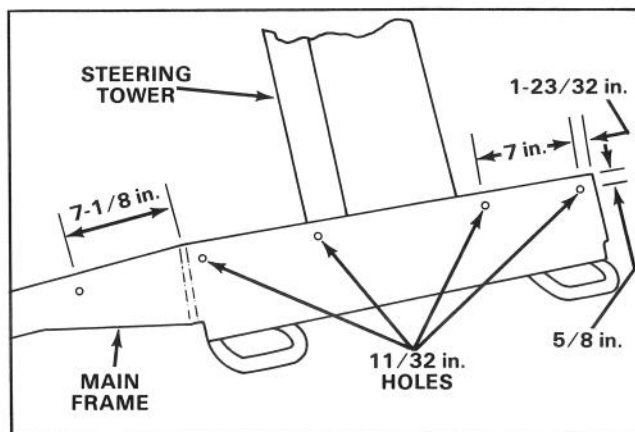

Figure 1
1. On the main frame forward of the steering column tower, measure and mark  $5/8$  in. down from the top edge (Fig. 1).
2. From the outer edge of the frame on each side, measure  $1-23/32$  in. inward and center punch where they intersect the  $5/8$  in. mark (Fig. 1).
3. Measure 7 in. toward the center from each center punch mark and center punch again at the intersection of the  $5/8$  in. mark (Fig. 1).
4. From the front face of the frame, measure  $7-1/8$  in. rearward along each side and center punch where it intersects the  $5/8$  in. mark (Fig. 1).